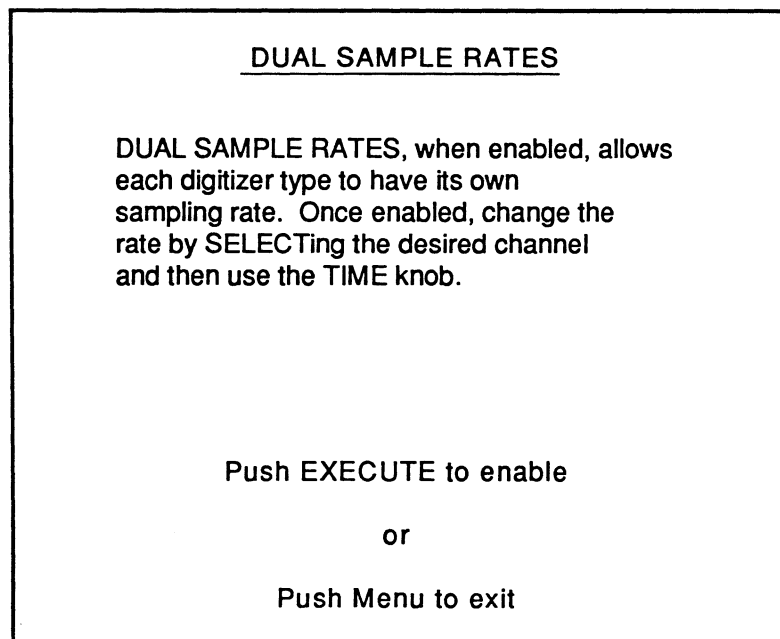

Figure 2 - Dual Sample Rates execution screen
2. Press the Execute button. The Dual Sample Rates execution screen appears (Figure 2).
Figure 2 - Two identical signals were input to channels 1 and 3 with the Time Per Point settings shown. Channel 1 captured one full cycle while channel 3 captured two full cycles with its Time Per Point setting of 1.0 μS.